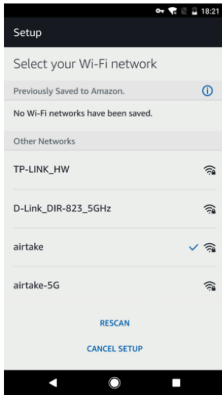
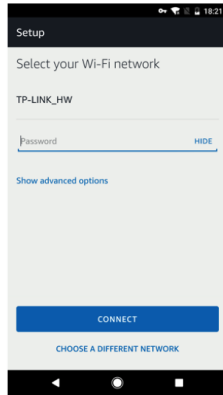
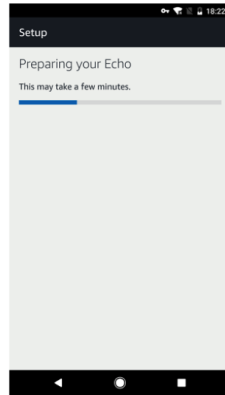

fig.12
fig.13
fig.14
- Select a Wi-Fi network to let Echo access the internet (fig.12). Type in the Wi-Fi password and then tap “CONNECT” (fig.13). Echo may take several minutes to connect to the network (fig.14).